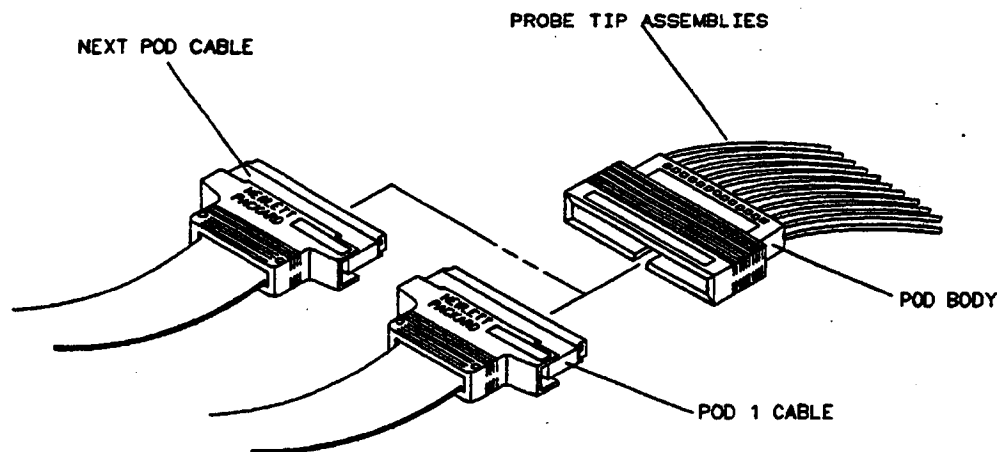

Figure 3-10. Switching To Next Probe Cable
8. Remove the pod body (with probe tip assemblies still connected to test connector) from probe cable of pod under test and connect to probe cable of next pod to test. See figure 3-10. Repeat steps 3, 4, 6 and 7 until all pods have been tested (pods 1, 3 and 5). Make sure the appropriate pod and clock are assigned and all probe assemblies are still connected to the test connector.
- Remove the pod body (with probe tip assemblies still connected to test connector) from probe cable of pod under test and connect to probe cable of next pod to test. See figure 3-10. Repeat steps 3, 4, 6 and 7 until all pods have been tested (pods 1 through 5). Make sure the appropriate pod and clock are assigned and all probe assemblies are still connected to the test connector.
8. Remove the pod body (with probe tip assemblies still connected to test connector) from probe cable of pod under test and connect to probe cable of next pod to test. See figure 3-10. Repeat steps 3, 4, 6 and 7 until all pods have been tested (pods 2 and 4). Make sure the appropriate pod and clock are assigned and all probe assemblies are still connected to the test connector.